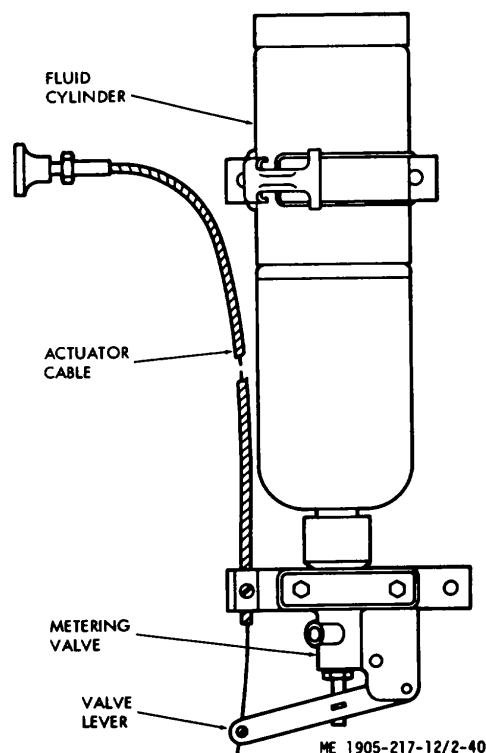

Figure 2-40. Starting aid.
**2-11. Cold Weather Operation****a. Starting Aid Pressurized Cylinder (fig. 2-40).**
(1) All craft use the same type starting aid.